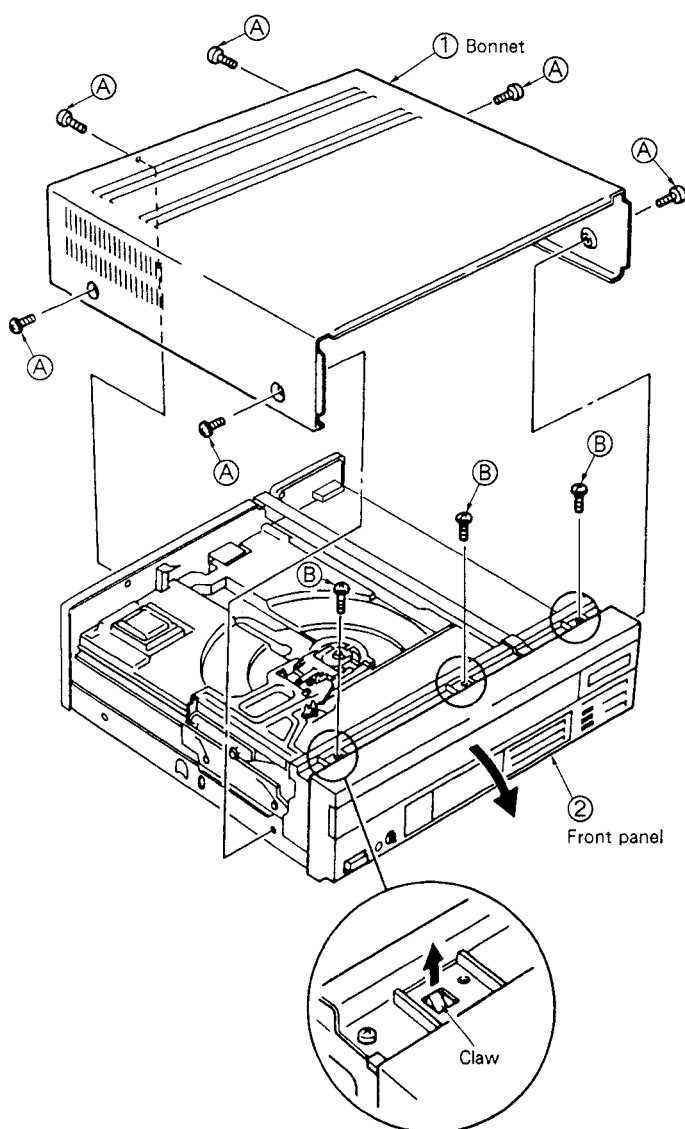
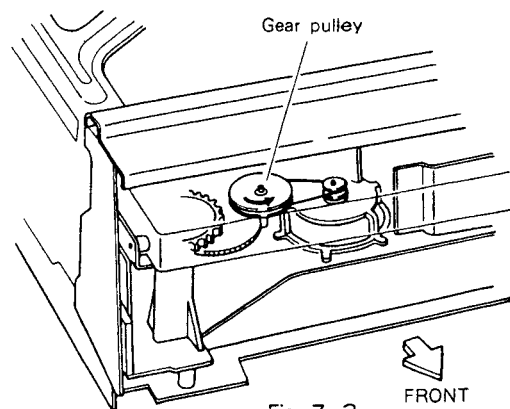

Fig. 7-1
Fig. 7-3
### 7.1 REMOVING THE BONNET AND FRONT PANEL (Fig. 7-1, 2)
- ② When the power cannot be turned ON, remove the front panel (Fig. 7-1), and turn the gear pulley shown in Fig. 7-3 counterclockwise, and the tray will slide out toward the front.
(At this time, adjust the position by the method shown in Fig. 7-3, or turn the power ON and use the SKIP (I◀, ▶I) buttons in the test mode.)